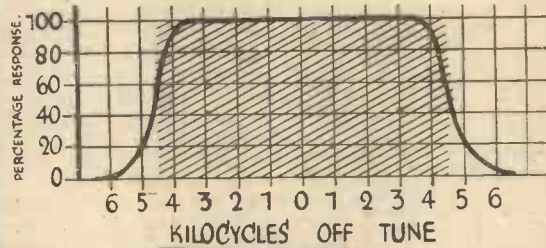

Fig. 5 A, B, and C.—Response curves for different kinds of tuned circuits.
Quite apart from obtaining accurate numerical data a good deal of information can often be gained merely by studying the shape of the curve. As an example of this I would ask you to examine the graph of Fig. 5 (A) which shows the response of a tuning circuit to different frequencies. The zero position on the horizontal scale represents the frequency of the carrier wave of a station and the figures on each side refer to the frequency of the side bands or musical notes impressed on the carrier wave. It will be seen that although full response is given to notes of low frequency, the response to high frequencies falls off very rapidly. The curve tells us that the circuit under review tunes very sharply and cuts off, or gives little response to, the higher musical frequencies. In consequence, it will provide excellent selectivity, but must be followed
by some kind of tone-correction device if good reproduction is required. Now compare the graph of Fig. 5 (A) with that of 5 (B). The latter obviously represents a flatly-tuned circuit which would be unselective but would give practically an even response to all musical notes.
Fig. 5 (C) is the response curve of an ideal band-pass tuner; equal response is given to all musical frequencies up to 4½ kilocycles (the highest permissible under the present scheme of 9 kilocycle separation between stations), but higher frequencies are given a sharp cut-off. Thus the circuit represented will be very selective, even though giving full response to all musical frequencies. The curve will explain the reason for the term "square-peak"